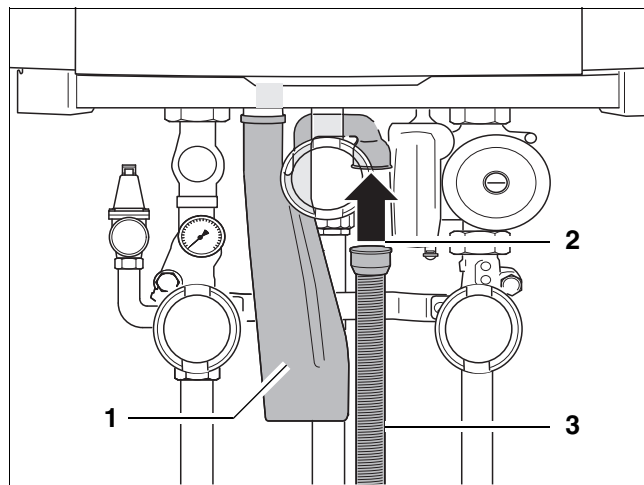
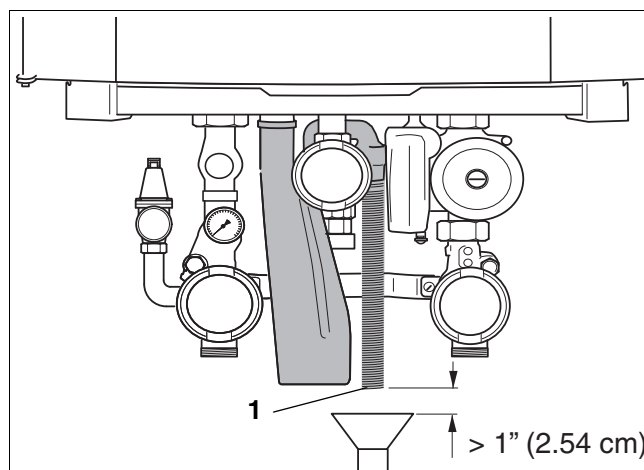

fig. 8 Installing the condensate trap hose
fig. 9 Condensate drain pipe
- Connect the condensate trap hose (fig. 8, [3]) and the rubber sleeve (fig. 8, [2]) to the condensate trap (fig. 8, [1]).
- Connect the condensate drain pipe to the condensate trap (fig. 8, [1] and fig. 9, [1]), taking the following into account: